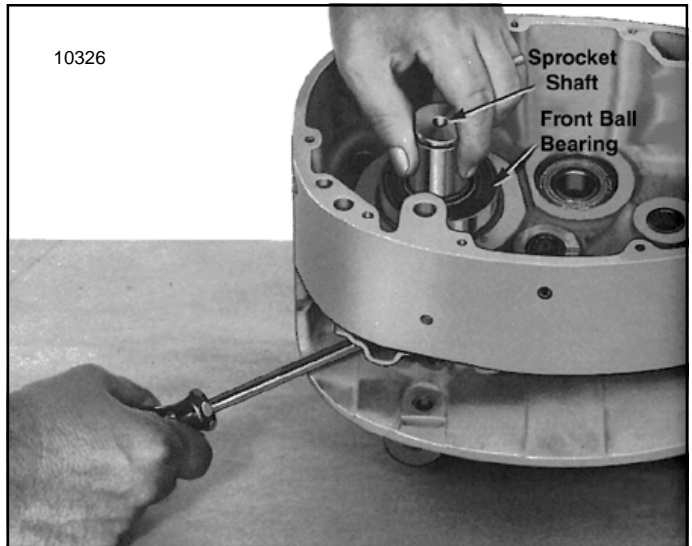

Figure 7-14. Removing Sprocket Shaft and Front Bearing
(4) Remove sprocket shaft and front ball bearings assembly from frame by lifting up on end of shaft while prying up on sprocket as illustrated in figure 7-14. The chain guide will need to be repositioned in frame as sprocket shaft is raised to allow the sprocket to pass thru hole of guide (fig. 7-15). On roller chain model hoists, the chain stripper must be partly removed from guide by prying it out using screw driver or other suitable tool. See figures 7-16 and 7-17.